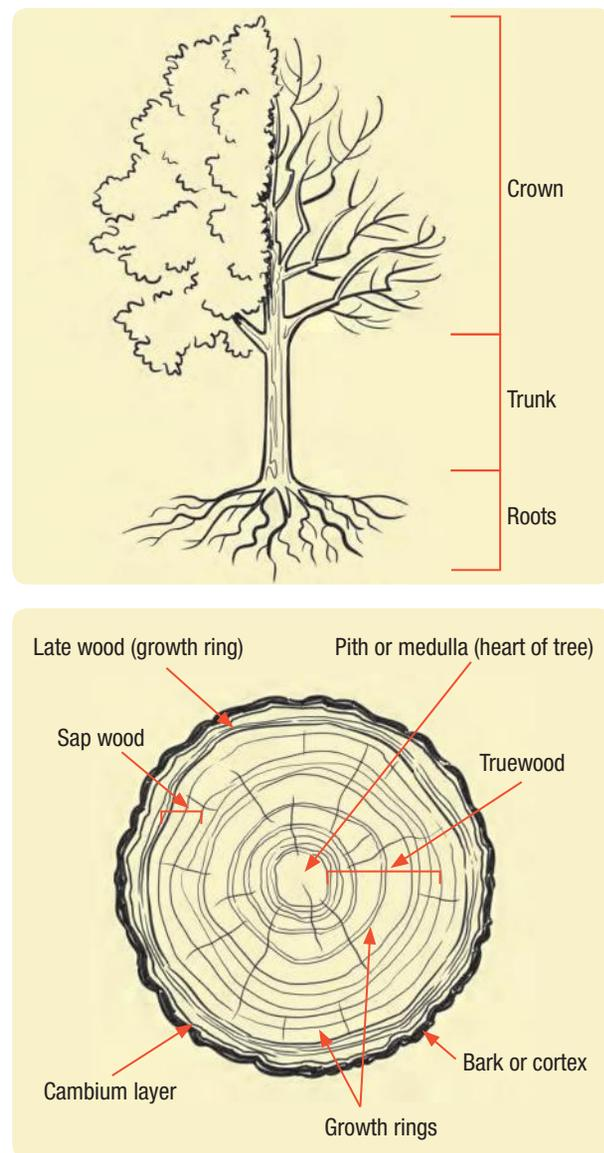

Figure 3.2 Parts of a tree
Figure 3.2 shows the structure—or the different parts—of a tree.
- 1 Study Figure 3.2.
- b On the drawing, label the seven different parts of a tree. You can use the diagram in Figure 3.2 on page 34 to help you with this question. What are the functions or work of each part?